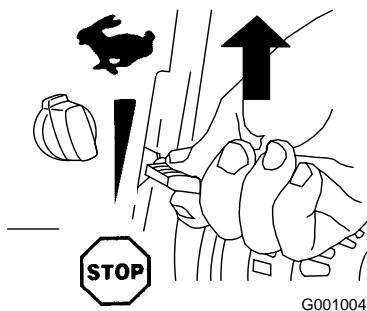

Figure 25
2. Move the throttle to the Fast position (Figure 25).